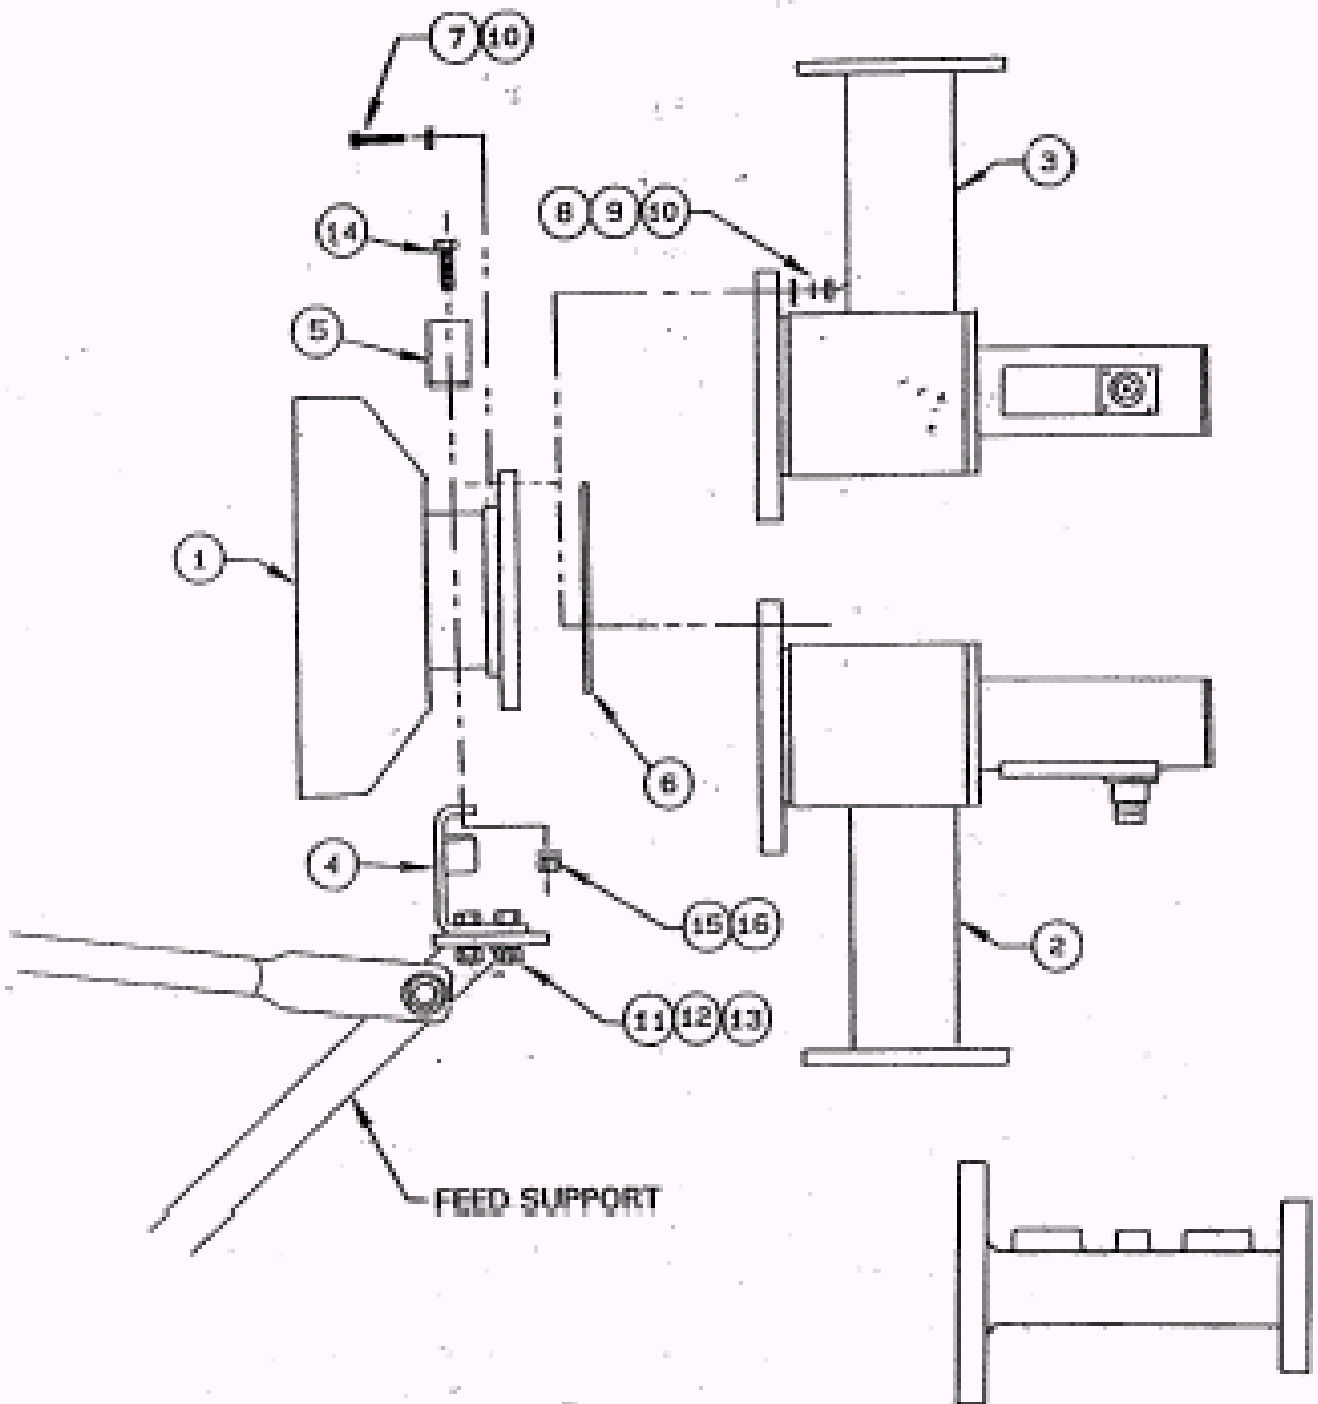

FIGURE 2
STEP 1: Apply silicone grease to the o-ring (item# 6) and place it in the groove in the OMT to be used. Mount the feed horn (item# 1) to the cross-pol OMT (item# 2) or co-pol OMT (item# 3) with [8] #10-24 x 1.25 screws, [16] #10 flatwashers, [8] #10 lockwashers, and [8] #10-24 hex nuts (item# 7,8,9,10). Tighten securely. **NOTE: The screws should be inserted from the feed horn side to prevent any interference.** See figure 2.